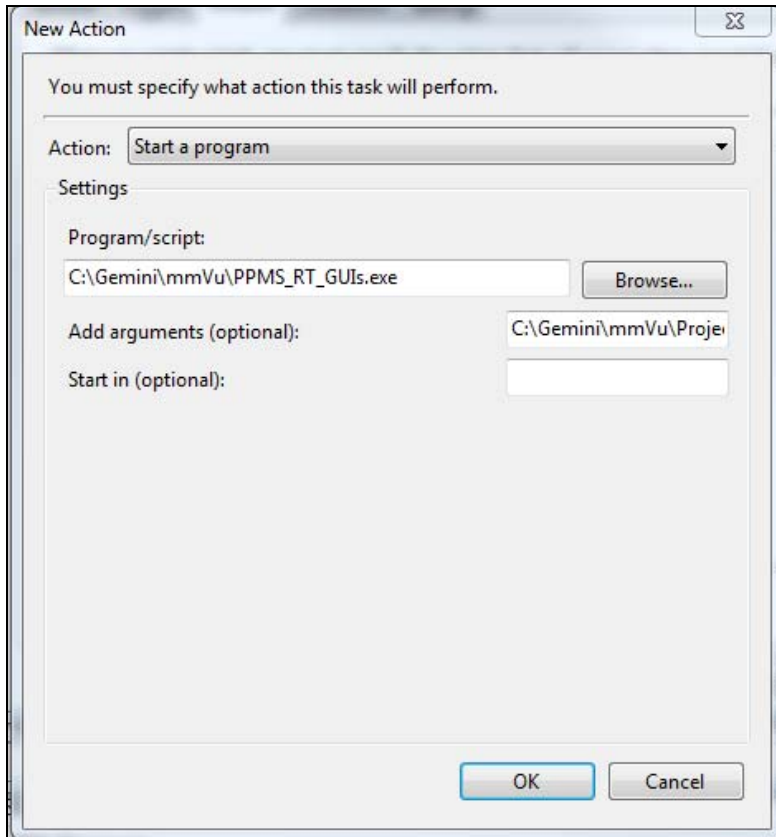

Figure 14: Configuring a Task - New Action
- g. Select “Start a program” as the Action. Specify “C:\Gemini\mmVu\PPMS_RT_GUIs.exe” for mmVu as the Program (Figure 14). Specify the full path of the project that you wish to start as an argument. Enclose the path in quotation marks (E.g., “C:\Gemini\mmVu\Projects\Test.mVu”)